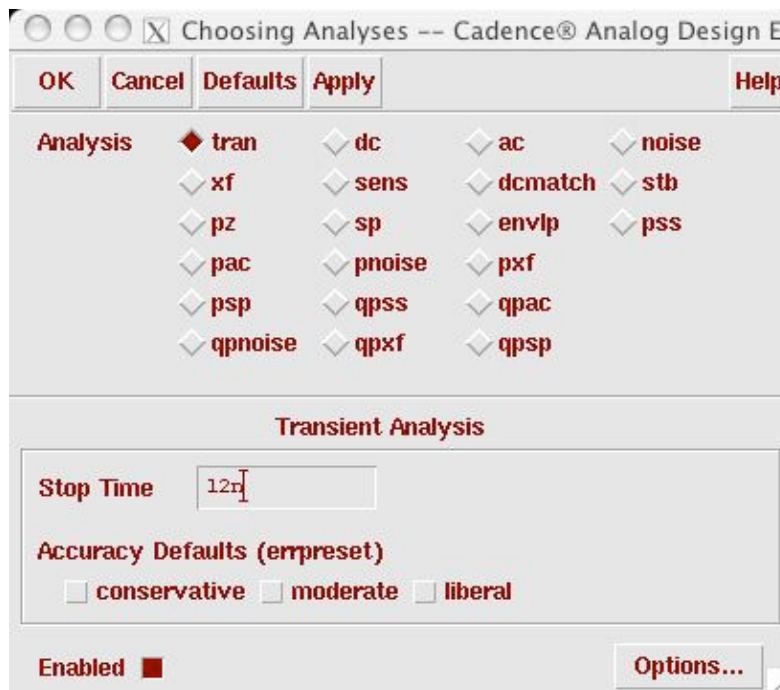

Fig. 19. Setting up transient analysis.
**Step 11:** In the *Analog Circuit Design Environment* window, go to *Analysis... → Choose...*, and fill out the form according to Fig. 19.